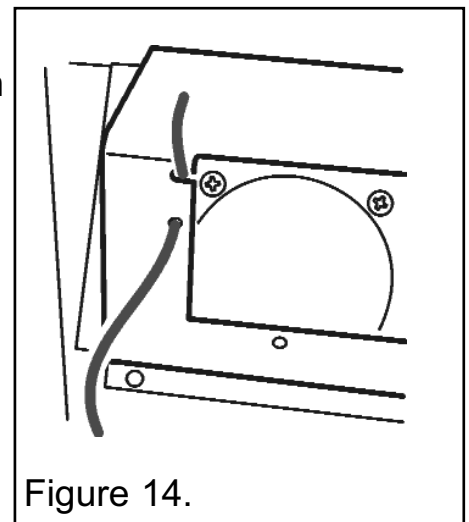

Figure 14.
5. The rear of the convection box has a slot and hole each side of the outlet opening. Assemble one end of the cable to the top of the fire by passing it through the small round hole and locking by positioning the cable in the adjacent slot (See figure 14). Give the cables a pull so that they grip.